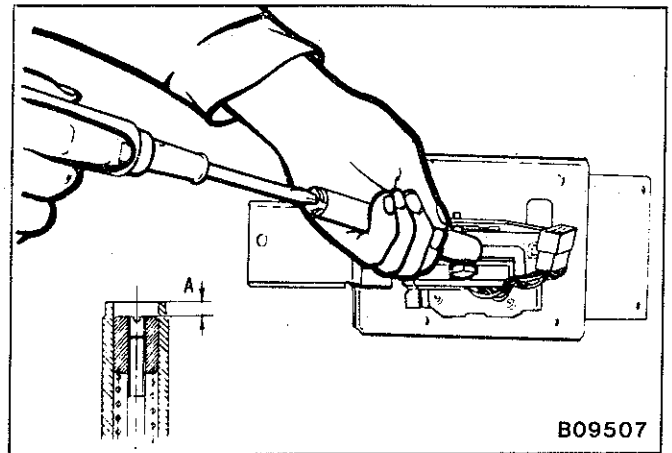

Fig. 2—Rod adjusting nut
- (8) The gear lever rod can be adjusted by the nut at the top of the selector lever. With the lever in the 'N' position and the handle removed, adjust the nut to the level of the lower notch in the lever, Refer Fig. 2.